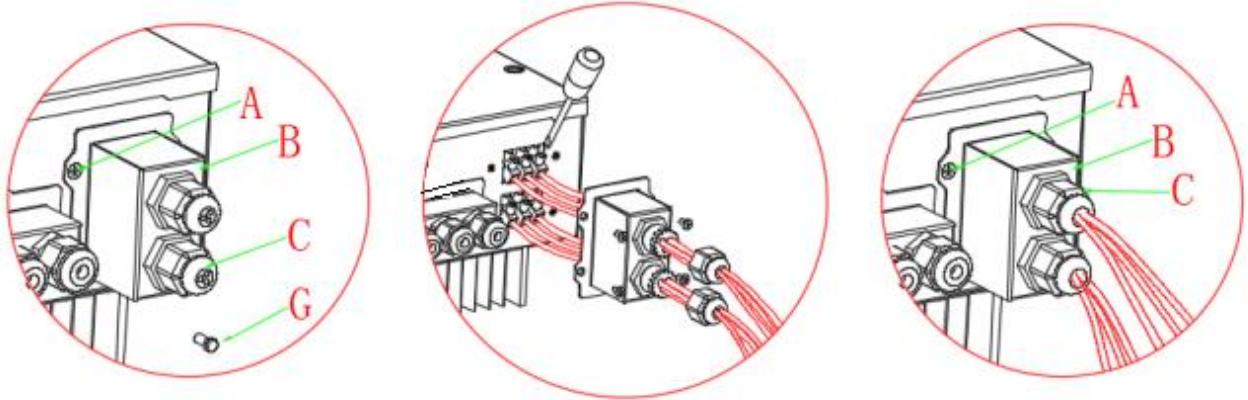

Fig. 11 Grid & Load connection
Step 1: Loosen 4 screws (part A) using a screwdriver (fig. 11)
The connection procedure of LOAD port is the same as grid connection (Fig. 11).